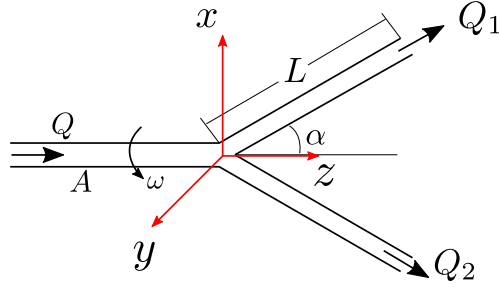

Figure 16: Rotating pipe assembly
18. Pipe of area A branches symmetrically into two pipes of length L and same area A at an angle of α . Water of density ρ flows at volume flow rate Q . The flow rate is divided into the branches such that $Q_1 = \eta Q$. The whole assembly is rotating at an angular velocity of ω about the z -axis as shown in figure 16